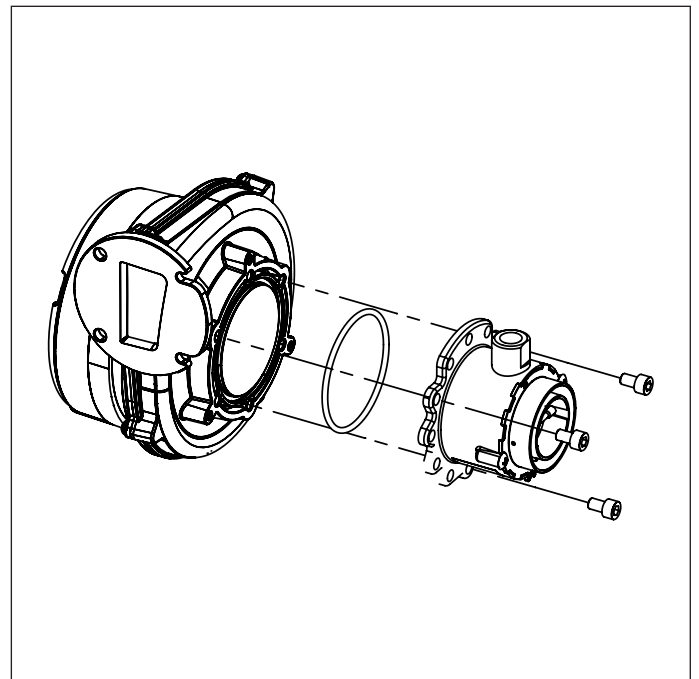

Fig. 29 Mixer
- Loosen the three socket head screws, and remove the mixer (see Fig. 29 Mixer).